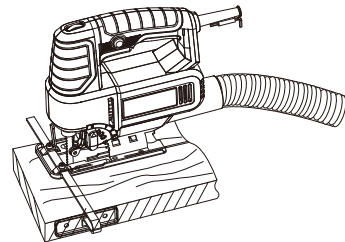

Fig. 14
- > Attach the parallel guide (13) to the product as described above and adjust to desired width (Fig. 14).